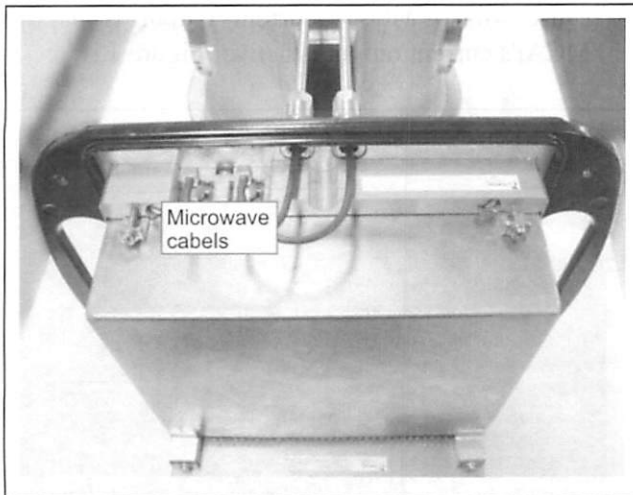

Fig. 6.
- Remove the microwave cables from the sensor electronics with an SMA wrench (figure 6).